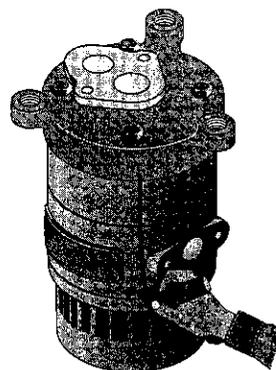

Figure 21
5. Draw a line down the side of the pump with a marker to help alignment during reassembly. Mark the pump from the motor to the base volute (see Figure 21).